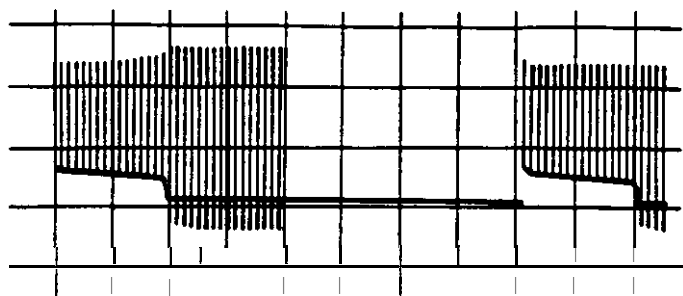

Figure 6-3. Gating Pulse Waveform
SCR's CR9 and CR10, connect oscilloscope probe to test points W4 and W3, respectively, shown in Figure 6-2. The displayed waveform should be approximately the same as that shown in Figure 6-3, except inverted.
- 5) If all pulse groups are present at W1 through W4 on circuit card A2 but the trouble symptom persists, check for the SCR gating waveform at the gate and cathode terminals of CR6, CR7 or CR9, CR10. If this test is performed, connect the probe common lead to the cathode (K) terminal of the device under test. Connect the oscilloscope probe to the gate lead of each SCR being checked.
- 6) The gating waveform displayed should be the same as that shown in Figure 6-3. If any waveform is missing, replace circuit card A2.